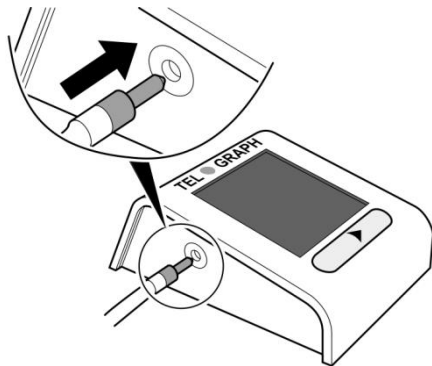

Fig. 6: Insert air tube
- 1) Insert the air tube connection into the air tube socket on the left-hand side of the monitor (Fig. 6).